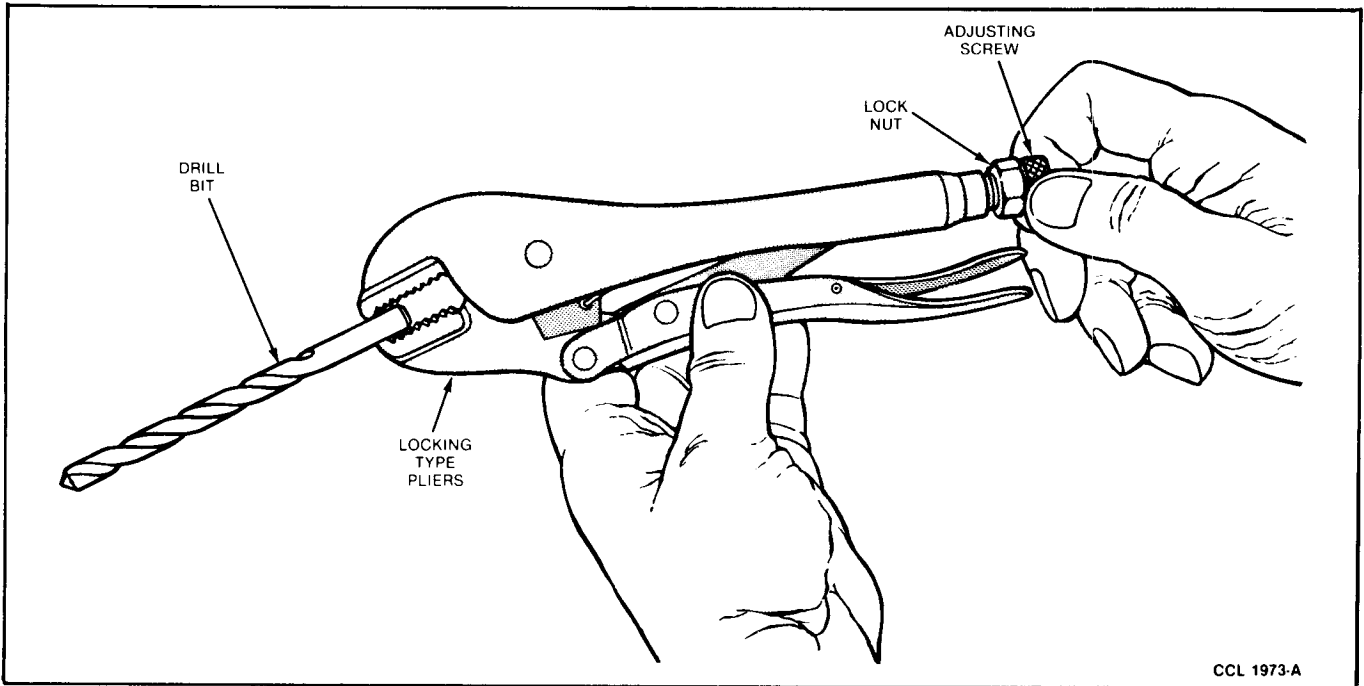

FIG. 13 Jaw Adjustment to Specified Opening
7. If locking type pliers are used to squeeze the header tabs against the tank, install a hex nut on the pliers adjusting screw (Fig. 13).
8. With the jaws of the locking type pliers closed and locked, turn the adjusting screw to position the jaws against the shank of a 13/32 inch drill bit (Fig. 13). Then, tighten the hex nut on the adjusting screw against the handle to lock the adjustment in place.
- If locking type pliers are used to squeeze the header tabs against the tank, install a hex nut on the pliers adjusting screw (Fig. 13).
- With the jaws of the locking type pliers closed and locked, turn the adjusting screw to position the jaws against the shank of a 13/32 inch drill bit (Fig. 13). Then, tighten the hex nut on the adjusting screw against the handle to lock the adjustment in place.